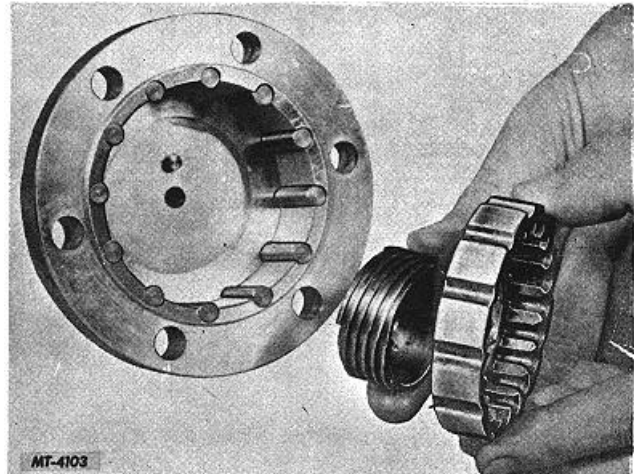

Fig. 8. Removing Clutch Ring and Screw
Using a small chisel, remove the staked over metal retaining the flat head screw (7). NOTE: Be careful when removing this material not to damage the clutch screw (8). Remove the screw (7). Lift out clutch screw (8) and clutch ring (6). Clutch ring (6) may be separated from clutch screw (8) by unscrewing it, Fig. 8. Turn clutch body face down to take out the drive pins (11).
Assemble clutch screw (8) into clutch ring (6) from back side (Fig.8). Be certain clutch screw works freely. If it is sticky in any position, tap lightly from the back side. Drop in clutch ring and screw assembly. NOTE: Clutch screw (8) should be flush with the back edge of clutch ring (6). Insert the twelve drive pins (11). Try clutch ring for a free sliding fit on drive pins. If it doesn't move freely from top to bottom, lift out clutch ring and screw assembly and turn it to another position. If it still does not move freely, it should be removed and the clutch ring (6), clutch body (13) and drive pins (11) examined for damage.